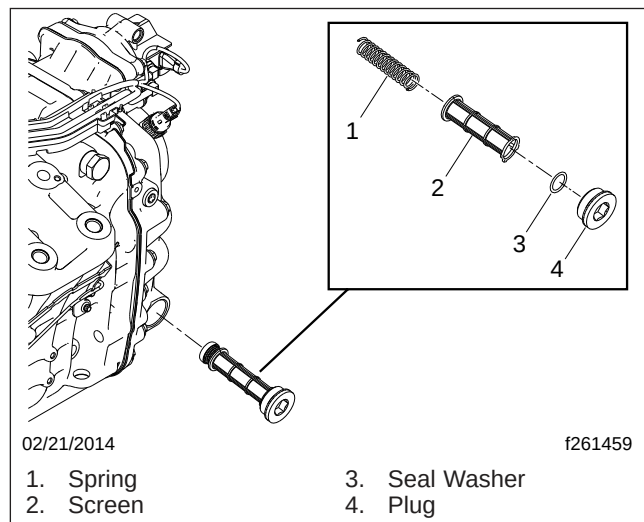

Fig. 10, Oil Pump Screen, Detroit Automated Transmissions
4. Remove the oil pump screen and check it for debris. See Fig. 10. Clean the screen, if needed, then install it with a new seal washer. Tighten the plug 90 lbf·ft (120 N·m).